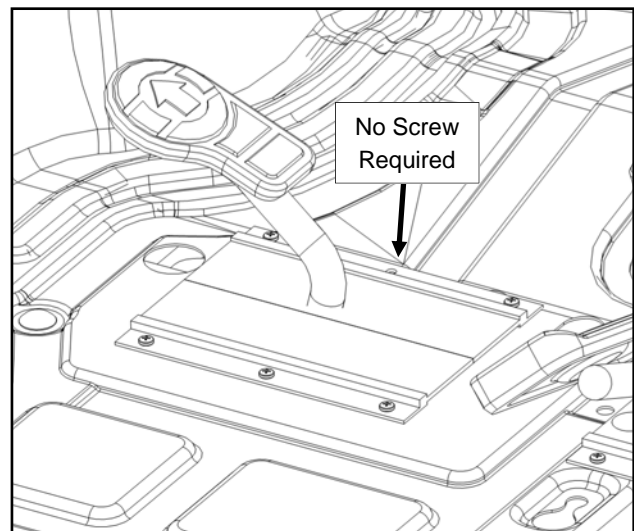

Figure 4.1 (Reverse Pedal Brushes)
- 4.1 The remaining two brushes seal off the reverse pedal. See Figure 4.1. Follow the same procedure as step 2.1 to secure the brushes as shown. One screw does not need to be used because the vehicle floor board dips down.